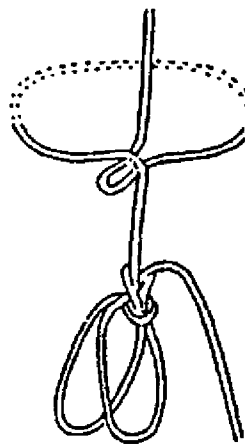

Fig. 3-52-4
- (d) Wrap the standing part of the rope once around your torso, fold the rope at the height of your chest, and pass this open loop under the rope wrapped around your torso. (Fig. 3-52-4)